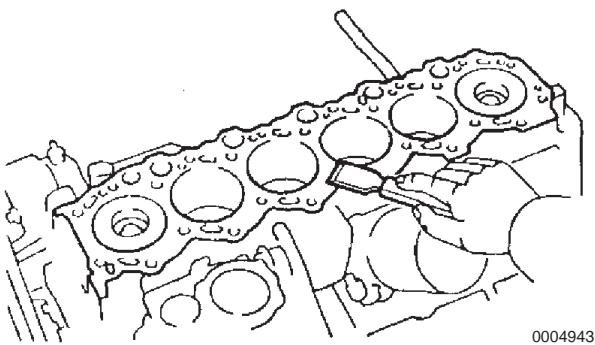

Figure 5-18
2. Remove all gasket materials from the top deck surface of cylinder block (Figure 5-18).